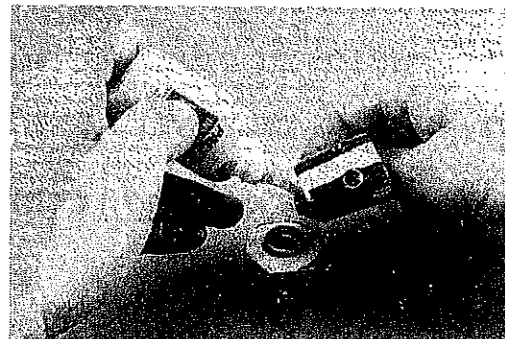

Fig. 7B
7. Grasp the piston and body together to prevent the piston from sliding back out, and turn over to allow the installation bullet to drop out. (See fig. 7B.) Set the body on end, with the piston head facing straight up.